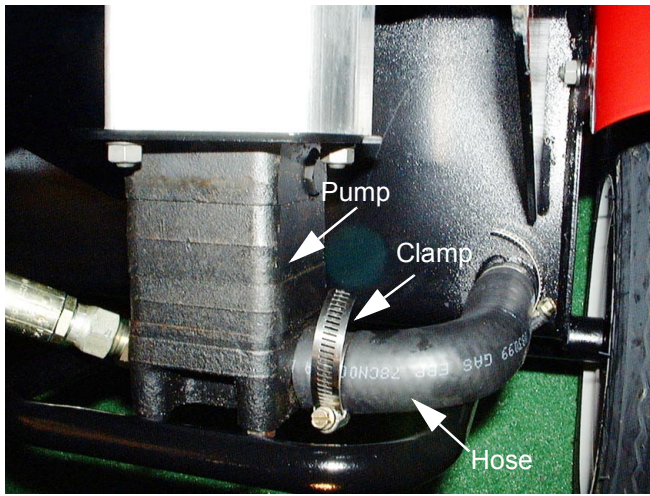

Figure 6
- Loosen the hose clamp securing the suction hose to the hydraulic gear pump using a 5/16" socket or a flat-blade screw driver. See Figure 6.